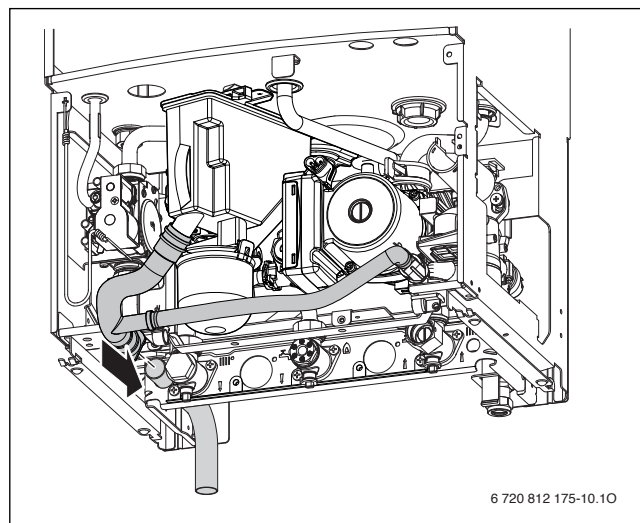

Fig. 38 Condensate connection
- ▶ Refer to figure 38, condensate connection: